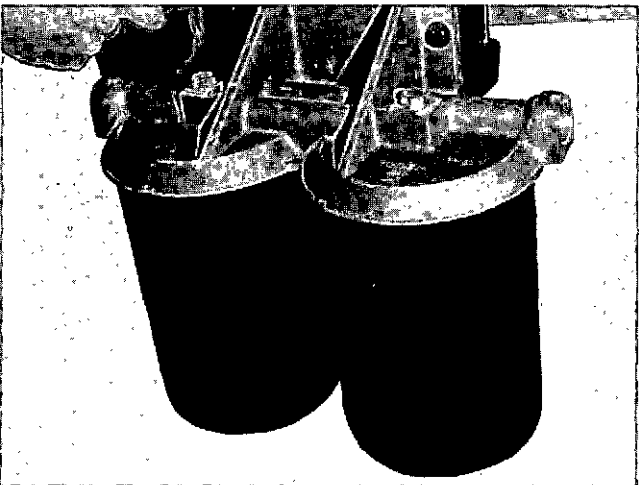

Fig. 0-8, V40084. Removing fuel filter bracket (replaceable type filter)
1. Remove capscrews and washers securing bracket to block; lift off bracket, Fig. 0-8.